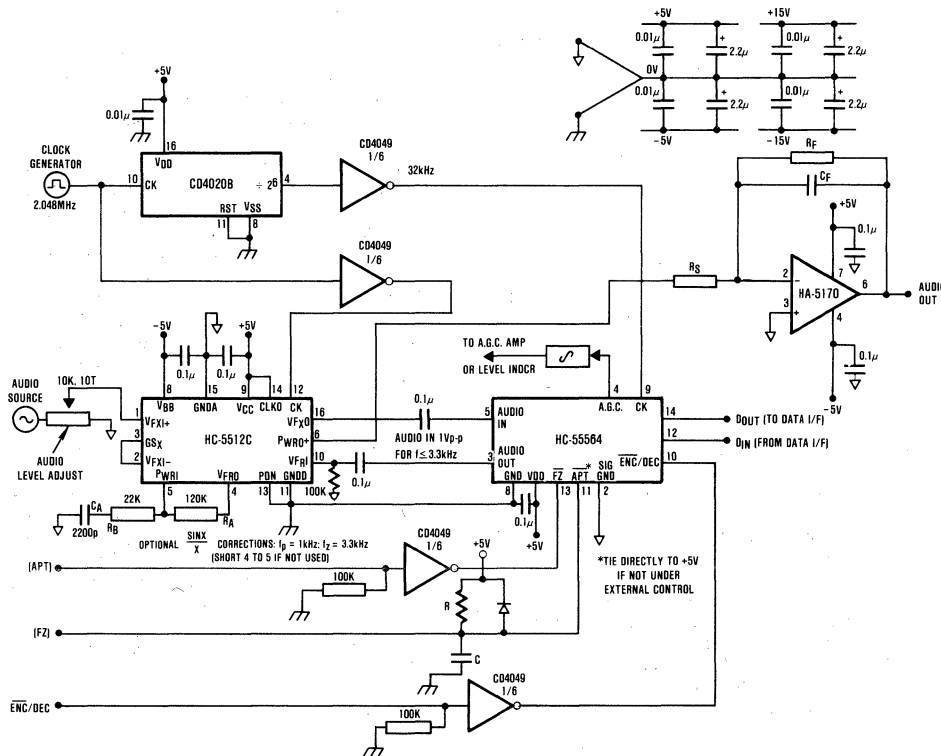

FIGURE 3. SUGGESTED CVSD-PCM FILTER INTERFACE
The Force Zero (FZ) input to the CVSD is used to reset all the internal counters at the start of an encode or decode cycle to prevent momentary overload. It will also recover the part from a latch-up condition. Cycling FZ during power-up sequencing is recommended. A suggested power-up reset circuit is shown in Figure 3 on the FZ control line. During the time FZ is active (low), an alternating 1,0 quieting pattern appears at the NRZ output which is at half the sampling clock rate, and is decoded inaudible. The quieting pattern may also be generated by activating the Alternate Plain Text (APT) input (low), or by removing the signal from the audio input pin.